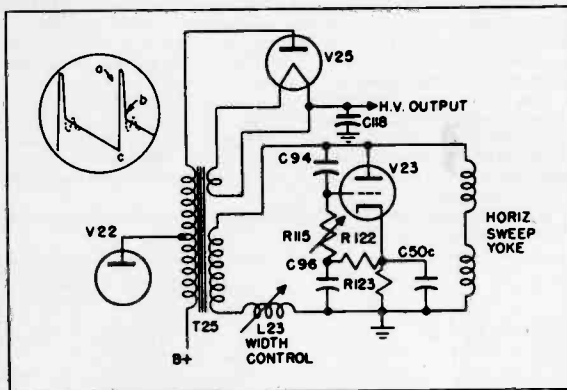

Fig. 7. Horizontal Sweep Output
6. HORIZONTAL SWEEP OUTPUT (SEE FIGURE 7)—The horizontal sawtooth voltage generated by the multivibrator, V21, is shaped and then amplified by a Type 6BG6G tube, V22. The output of this tube is coupled to the horizontal deflection coils through an impedance-matching transformer, T25. An oscillatory voltage, as shown in the dotted line in the waveshape at the upper left of Figure 7, which results from the rapid retrace in the transformer T25, is removed by the damping tube, V23. This tube is a dual triode, Type 6AS7G, and by its use the transient may be dampened, linearity controlled, and the positive overshoot voltage retained for use in the high voltage supply. The linearity of the horizontal trace is controlled by varying the voltage waveshape applied to the grid of V23 by potentiometer, R115. The horizontal size is controlled by the adjustable iron core inductance, L23, which is in series with the output to the yoke.
8. HIGH VOLTAGE SUPPLY (SEE FIGURE 7)—The high voltage is derived by making use of the inductive "kick" voltage produced during retrace in the horizontal output transformer. This "kick" voltage is shown in the waveshape shown as "c to b" in Figure 7. This voltage is generated in the primary winding and is further increased by an additional winding added to the transformer which connects to the rectifier tube plate of V25. The rectifier tube, V25, is a Type 8016 which derives its filament voltage from the horizontal sweep transformer T25 by a single turn around the transformer. Because of the high frequency (15,750 cps) which is rectified, a 500 mmf. capacitor is more than sufficient for filtering purposes.